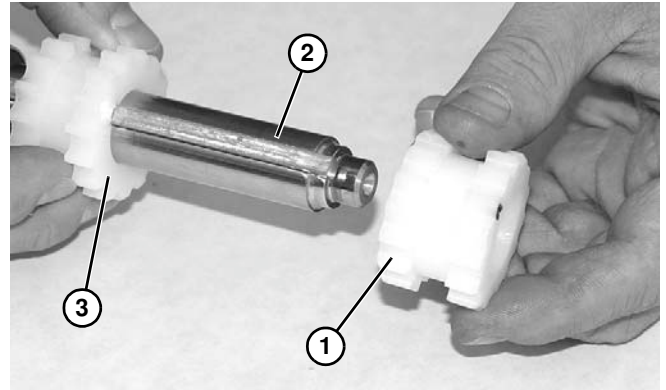

Figure 57
2. Install required quantity of free moving sprockets (**Figure 57, item 1**) onto drive pulley (**Figure 57, item 2**).
3. Install fixed sprocket (**Figure 57, item 3**) at the same location it was removed, making sure it engages the belt. Tighten set screw.